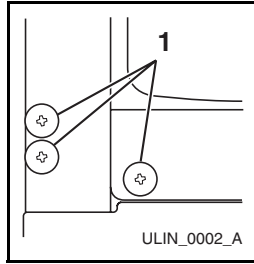

Figure 24
2. Remove plastic screw plugs (three each, top and bottom) **(Figure 24, 1)** from new hinge location. Do not discard.